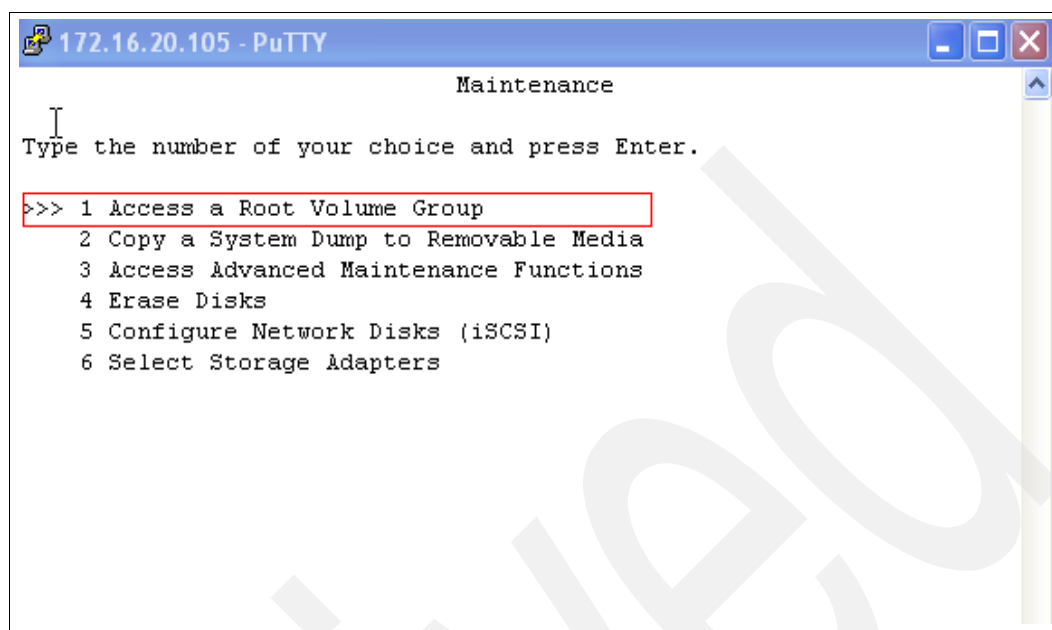

Figure 4-25 Accessing a root volume group for system maintenance
6. Select option **1** Access a Root Volume Group, as shown in Figure 4-25.